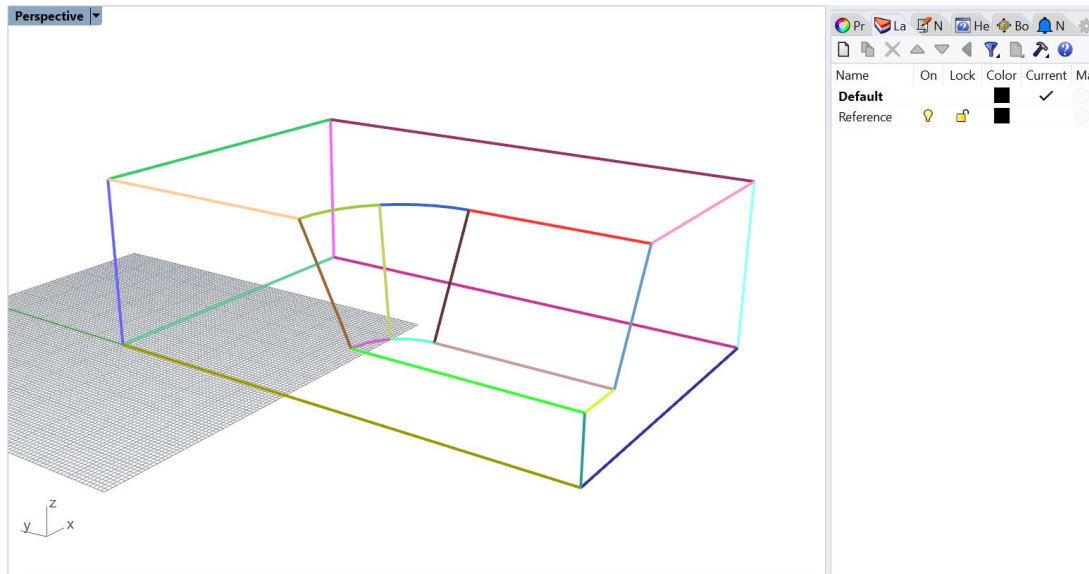
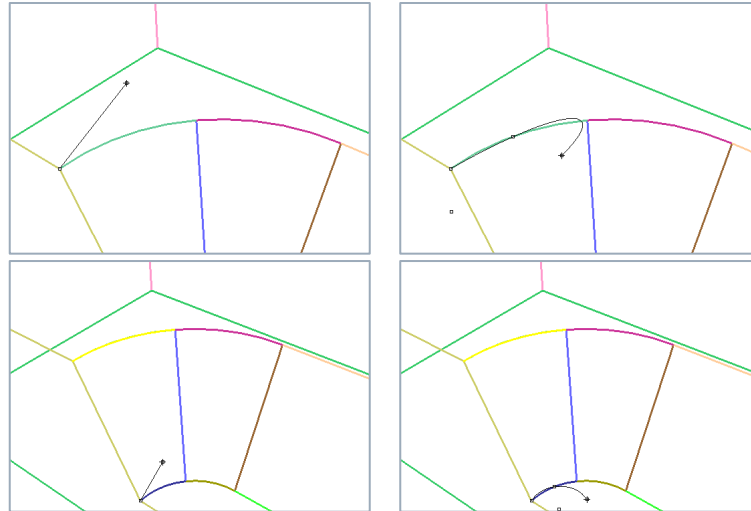
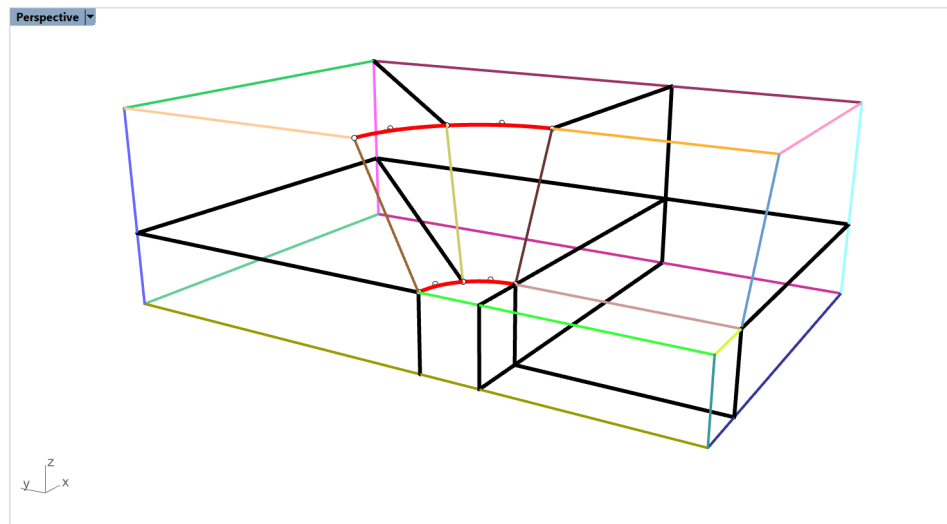

Figure 31: The reference model.
Figure 38: Building the upper (top) and lower (bottom) arcs.
Figure 39: Red arcs retrace the original polylines at the curved section of the model.
5. Navigate to the *Layers* pane as shown in Figure 31. If the pane is not visible, open it by going to **Edit** → **Layers** → **Edit Layers...** In the *Layers* pane, rename the automatically created layer “lines” to “Reference” and delete all layers except “Default” and “Reference”. Ensure that all objects are now in layer “Reference” by selecting all objects and navigating to the *Properties* pane (or press **F3**).
6. Select all objects and type the command **\_Move**. For the *Point to move from*, select the bottom-left corner of the model and for the *Point to move to*, type 0. This will move all objects and align the bottom-left corner of the model with zero coordinates. Compare the results with Figure 31.
- Starting with the reference model presented in Figure 31, create new construction lines as shown in Figure 38. Use the **\_Line** command and start by connecting nodes from the middle of the model (where the curved segments are) to the sides of the model. Pay attention to when the mouse tooltip shows “Perp” or “Perp, Int” (or other types of intersections), which means that the line under construction is perpendicular to (and intersects) another line.
The curves created in the previous step (Figure 31) are polylines, and some of them are composed of multiple linear segments that cannot be used directly to build surfaces. They must be retraced with arcs (**Curve → Arc**) or higher order curves (**Curve → Free-Form → Interpolate Points**) to create simpler two-noded curves.
- Zoom in around the curved segments in the model and select in the top menu **Curve → Arc → Start, Point, End**. Create separate arcs at each curved segment of the model as shown in Figure 38 and Figure 39. In total, four arcs should be created. Pay attention to when the mouse tooltip shows “End, Int, Knot” when connecting to the points in the middle of the curved segments. Such a tooltip means the mouse is at the end of a line, hit an intersection with another line, and is at a knot.